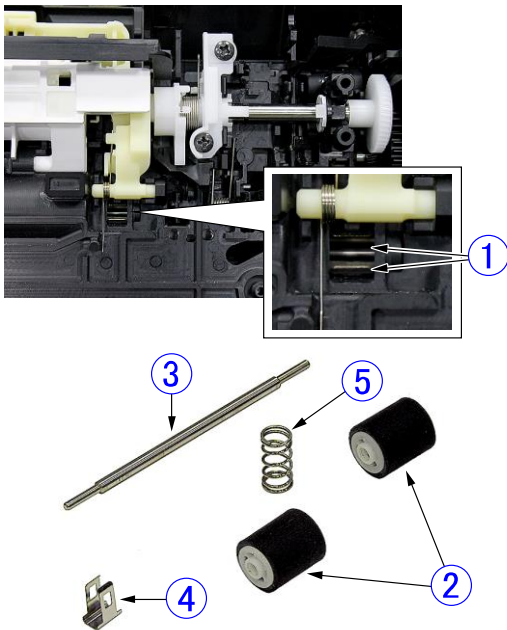

Figure 3-218
- 3) Unhooking the fitting part ① (2 places) at the same time detaches the follower roller on the backside and the coil spring. (② to ⑤ in the Figure 3-218).